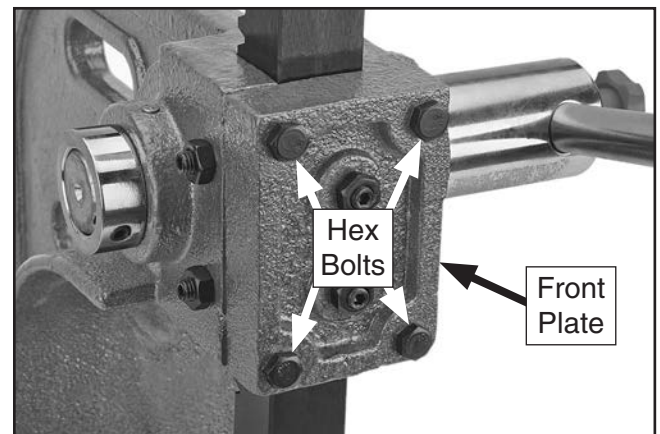
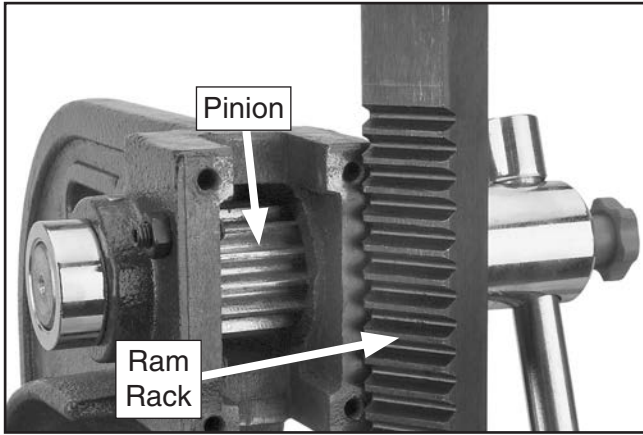

Figure 10. Hex bolts that secure front plate.
Figure 11. Ram rack and pinion.
1. Remove hex bolts shown in **Figure 10**, then remove front plate to access ram rack-and-pinion (see **Figure 11** on next page).